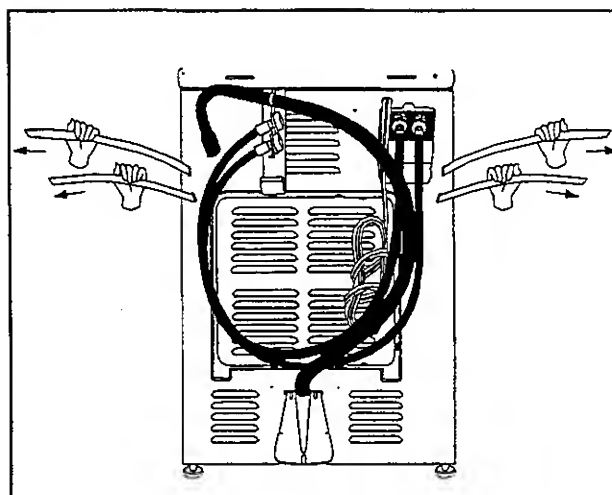

Figure 1-2
- B. Grasp each loose strap individually and pull the strap to remove it from the cabinet. Discard the strap (Figure 1-2).